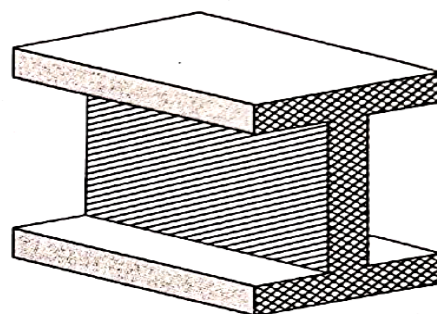

Fig. 18.15
- (v) The cross-section of steel girders has the form of the letter *I* as shown in Fig. 18.15. Most of the material in these *I*-beams is concentrated in the top and bottom flanges ; the piece joining the flanges, called the web, is of thinner cross-section. Thus when the beam is used horizontally in construction, the stress is predominantly in the top and bottom flanges — not in the central portion. One flange is squeezed while the other is stretched. Between the top and bottom flanges is a stress-free region that acts principally to connect the top and bottom flanges together. This is the neutral layer where comparatively little material is needed. The flanges carry virtually all stresses in the beam. An *I*-beam is nearly as strong as a solid rectangular bar of the same overall dimensions, and its weight is considerably less. A large rectangular steel beam on a certain span might collapse under its own weight whereas an *I*-beam of the same depth would carry much added load.